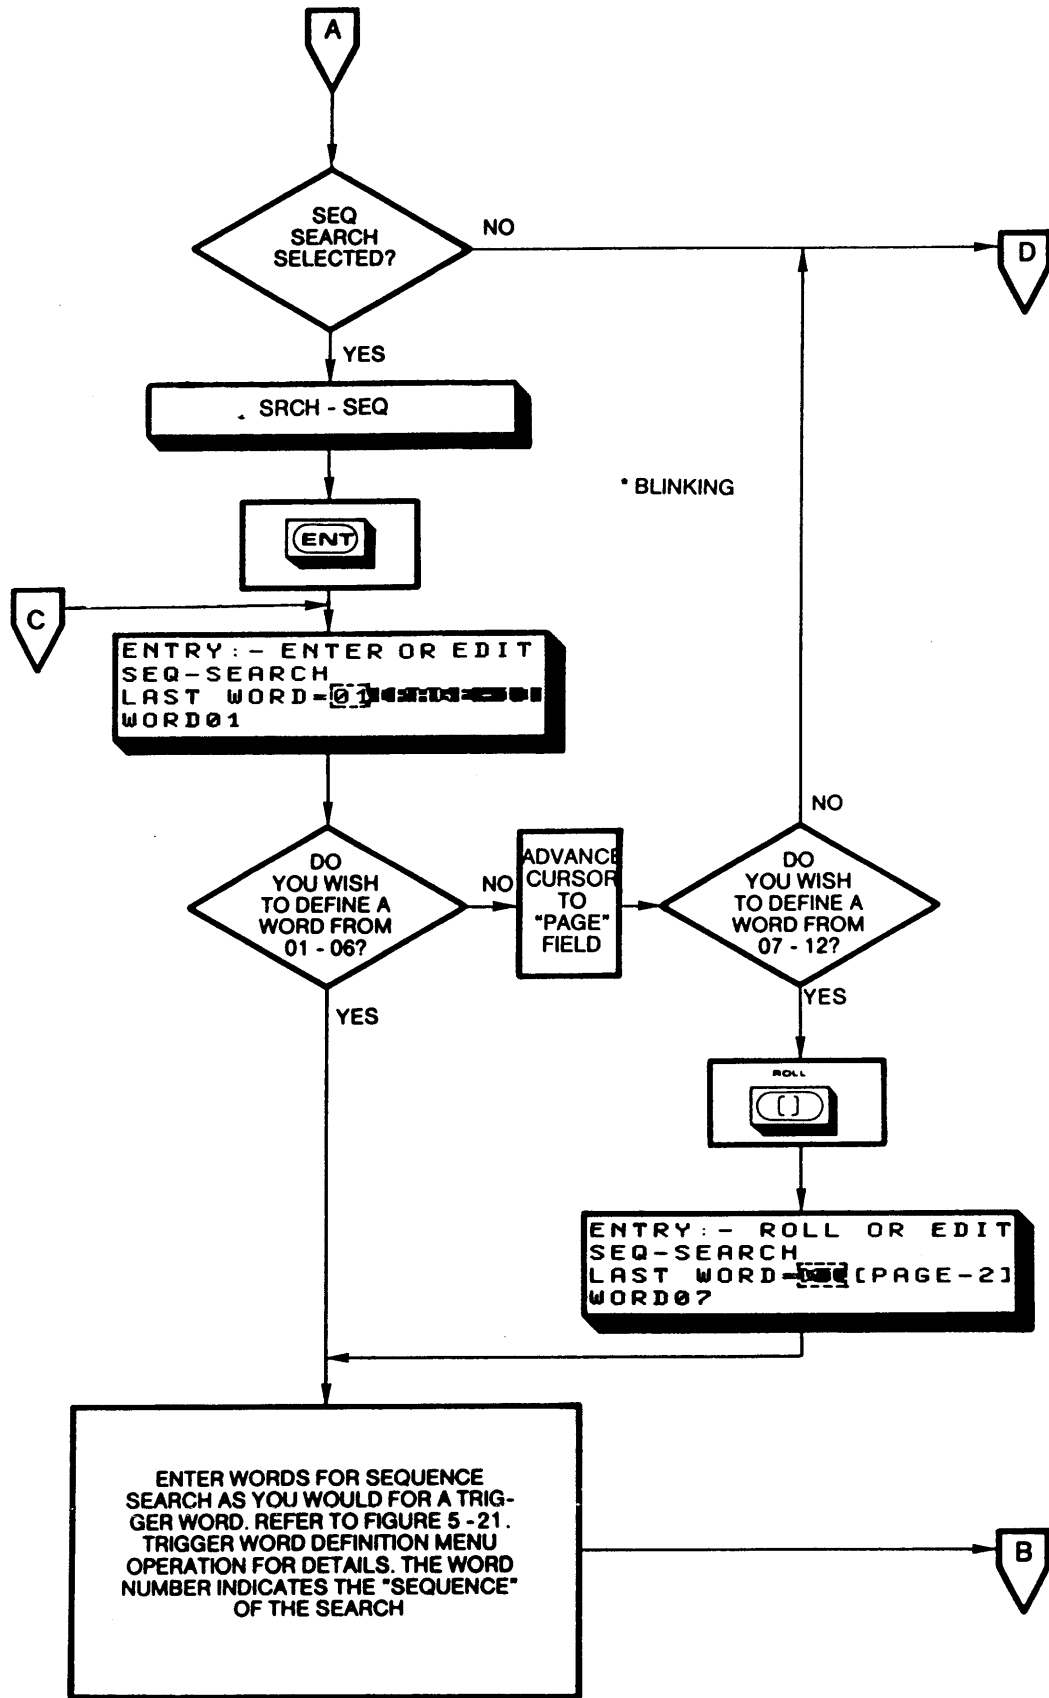

FIGURE 5-39B. LIST DISPLAY SEARCH
**5.5.8.3 Word.** The word search function allows the user to input a particular word desired for search directly into the LIST DISPLAY. The word is initially entered in Hexadecimal form for all channels desired. When this mode is executed, the analyzer will search for the word and display the first occurrence of it in memory. See Figure 5-39B for details on operating procedures to program the Word search.
sented on two "pages". Page one provides programming for words 1 through 6, and page two provides programming for words 7 through 12. The number of the word entered is its number in the sequence. The Analyzer will look for each occurrence of that particular sequence. The "Last Word" is used to tell the analyzer where to stop in the sequence. Thus, a sequence of 12 words may be entered, but the user may program varying length of the sequence by using the "Last Word" option. Figure 5-39B and 5-39C describes the procedures used to program the Sequence Search.